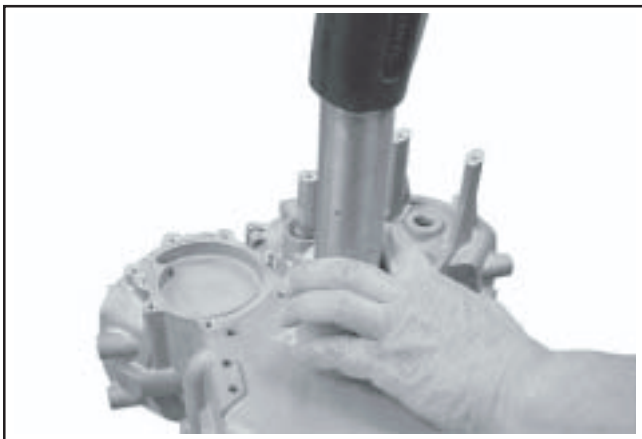

Figure 11-1. Installing Crankshaft PTO Side Seal Using Tool.
3. Install the oil seal into the crankcase using a seal driver. Make sure the oil seal is installed straight and true in bore, until the tool bottoms against the crankcase. See Figure 11-1.